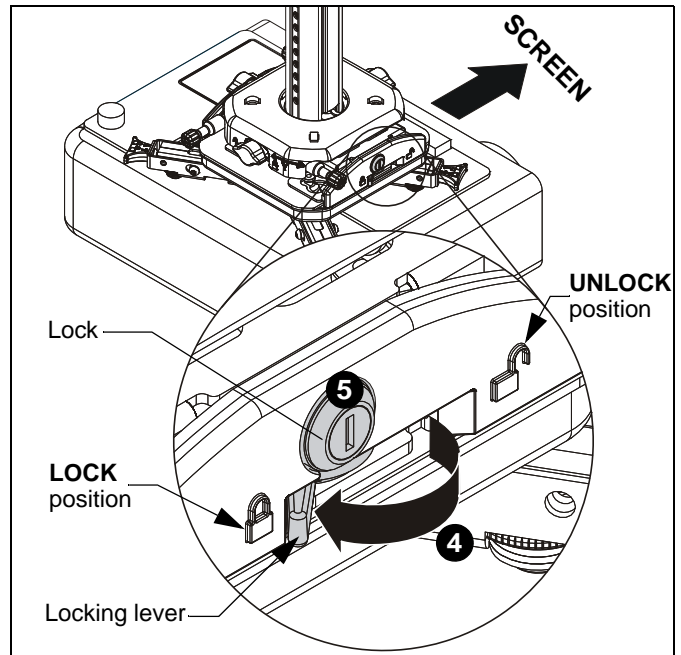

Figure 22
4. Move locking lever to "Locked" position. (See Figure 22)